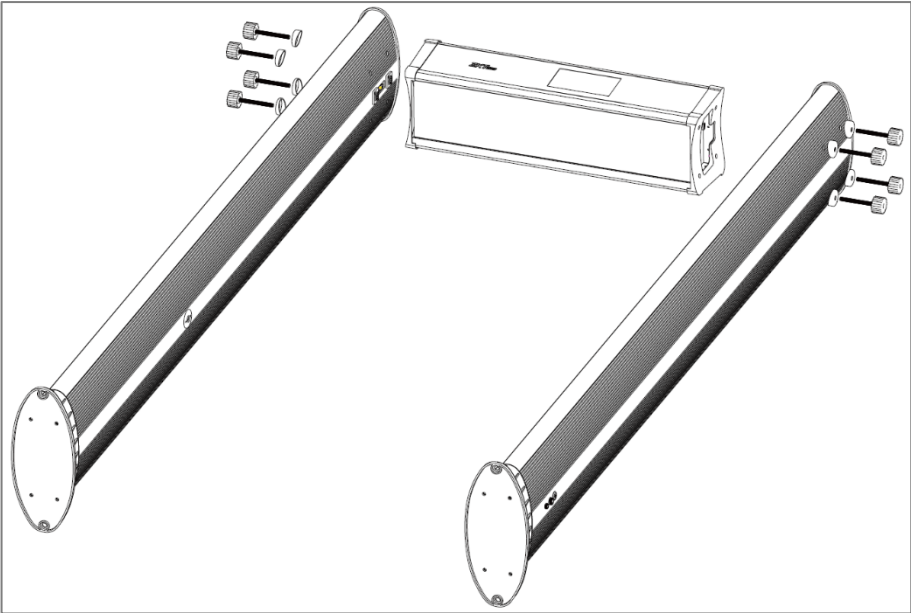

Figure 3-2
**Step 2:** Connect the main box with the left and right door panels using bolts as shown in figure 3-2 below.